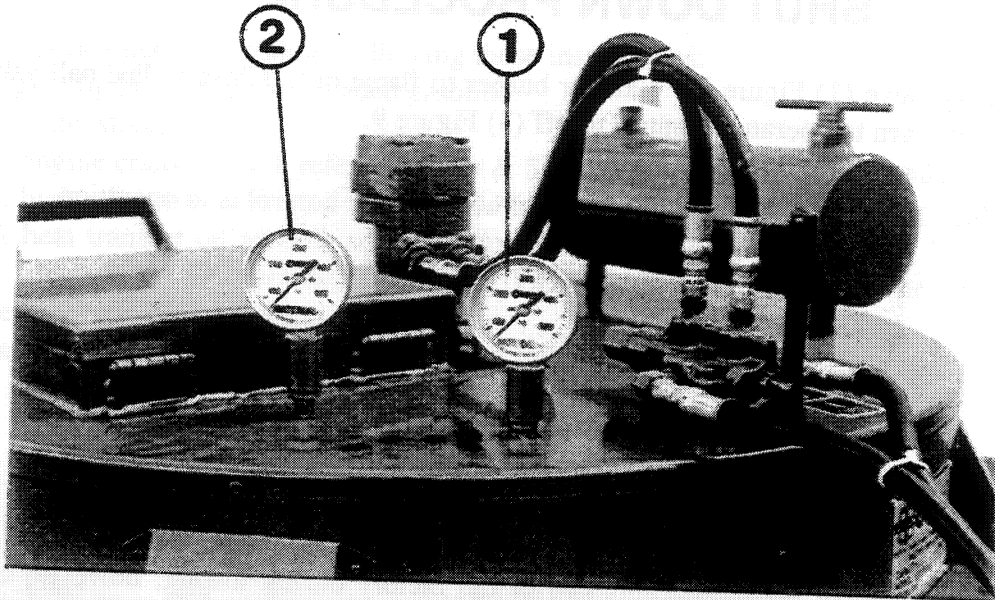

FIGURE 10
The temperature control system is calibrated at the factory during testing; however, it is good practice to check the calibration when the machine is first put into operation. And also checked again periodically. (Each 50 hours of operation is recommended.) The gauge (shown in (1) Figure 10) registers the actual temperature of the heat transfer oil and it should coincide with the temperature control hand knob setting.
- a. When sealant reaches application temperature (refer to sealant manufacturer's recommendation). Thermometer located on top of material tank indicates material temperature. See (2) Figure 10.